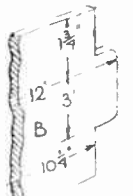

Fig. 5 End tenon and rail dimensions
Using a fretsaw, cut round the outline, not forgetting the recess or open mortise in the upper part of the straight back edge. This mortise is to take the end tenon on rail (B), which is again seen in the detail in Fig. 5. When cutting is done, clean up the edges of the wood and bore two holes between the two cross dotted lines to take the screws which hold the shelf (C) secure.